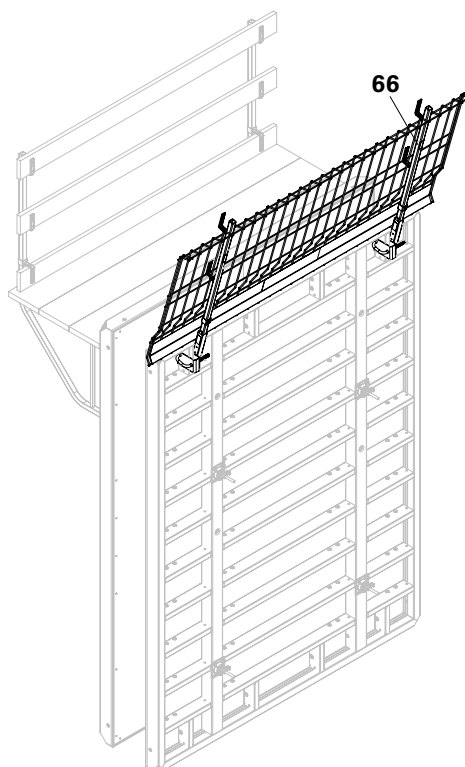

Fig. A13.23
1. Hook in Guardrail Post Holder TRIO (65) into the connecting holes of the vertical struts of the panels.
3. Insert Guardrail Post HSGP-2 (66).
- (Fig. A13.23)